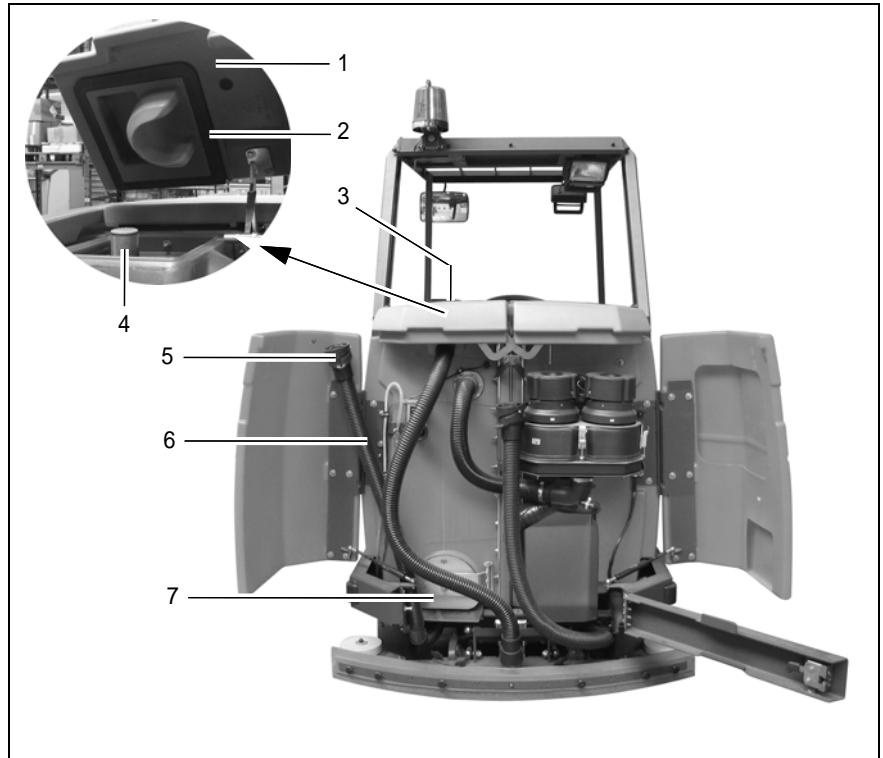

Fig. 26
The recovery tank (Fig. 26/3) must be emptied and flushed clean after finishing work.
1. Park the vehicle so that the waste water draining hose (Fig. 26/6) can be positioned over a drain in the floor.
3. Detach the waste water draining hose (Fig. 26/6) and lower it slowly.
4. Unscrew the screw cap (Fig. 26/5). The quantity drained can be regulated by turning the cap and pivoting the cap open fully, if necessary.
Clean the recovery tank (Fig. 26/3) every day or as necessary. The cleaning flap (Fig. 26/7) is available for this.
7. Open the recovery tank cap (Fig. 26/1).
10. Unhook the waste water draining hose (Fig. 26/6), lower it slowly and open the cap (Fig. 26/5).
- Clean the screw cap on the waste water draining hose (Fig. 26/6) daily.